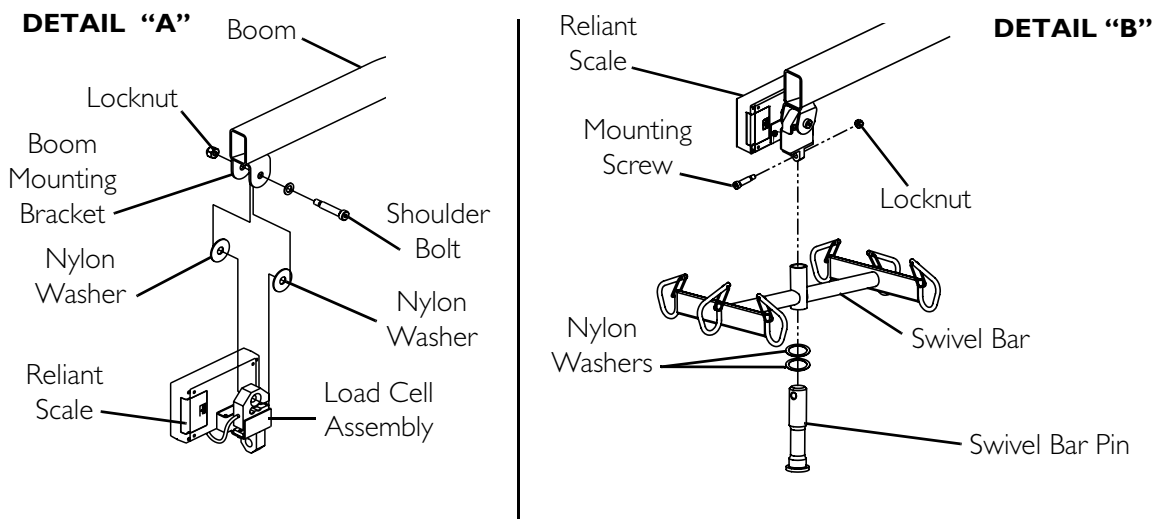

FIGURE 8.2 Installing the Reliant Scale
NOTE: For this procedure, refer to FIGURE 8.2.
1. Position the load cell assembly of the Reliant Scale into the boom mounting bracket. Refer to Detail "A" in FIGURE 8.2.
2. Secure the Reliant Scale to the boom mounting bracket with a shoulder bolt, two nylon washers and a locknut. Securely tighten. Refer to Detail "A" in FIGURE 8.2 for washer orientation.
3. Insert swivel bar pin with two nylon washers through the swivel bar. Refer to Detail "B" in FIGURE 8.2.
4. Align the mounting holes in the swivel bar pin with the mounting holes in the load cell assembly. Refer to Detail "B" in FIGURE 8.2.
5. Secure swivel bar pin to the load cell assembly with the provided mounting screw and locknut. Securely tighten. Refer to Detail "B" in FIGURE 8.2.